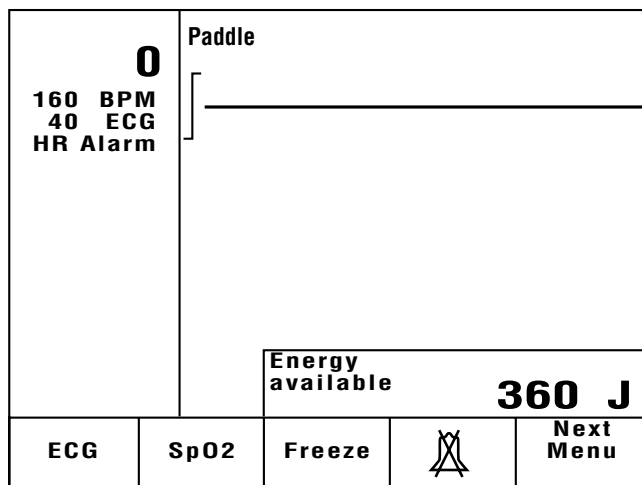

Figure 3-9. Display of available energy
- * When the selected energy level has been reached, **CardioServ** beeps and the stored energy is displayed (Figure 3-9).
After defibrillation, the beeping sound stops, and the energy actually delivered into a 50-ohm resistance is displayed for 10 seconds in place of the stored energy (Figure 3-9). The delivered energy must not deviate more than $\pm 15\%$ or ± 4 joules (whichever is greater) from the selected value. A recording is initiated at the same time (16-second strip).